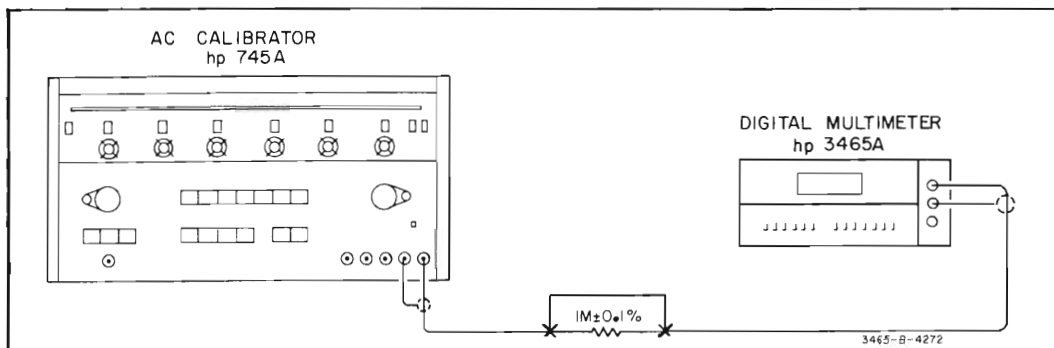

Figure 5-7. AC Voltmeter Input Impedance Test.
a. Connect the AC Calibrator and a 1 M $\Omega$  resistor as shown in Figure 5-7. Connect a jumper across the resistor.